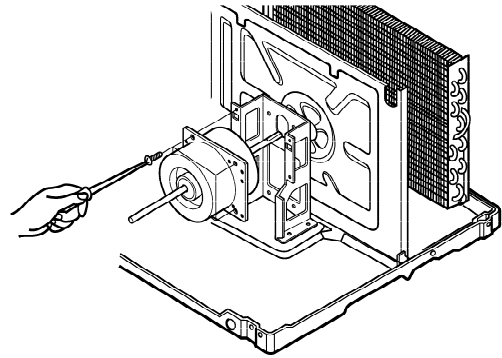

Figure 13
9. Re-install the components by referring to the removal procedure, above.(See Figure 13)